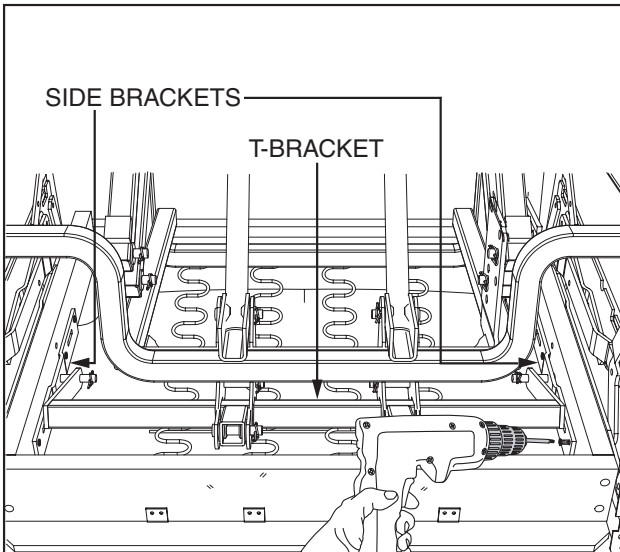

Figure 5. Side Bracket/T-Bracket
8. Remove the eight (8) wood screws (four [4] on each side) that attach the side brackets to the wood rails on the seat. See figure 5.
8. Keep the T-bracket level when positioning each side bracket. See figure 5.
9. Reattach the eight (8) wood screws for the side brackets onto the wood seat rails. There are four (4) screws on each side of the lift chair. See figure 5.